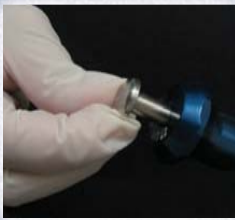

Figure 2
3. Turn plunger knob clockwise until appropriate depth is reached. (Figure 2)